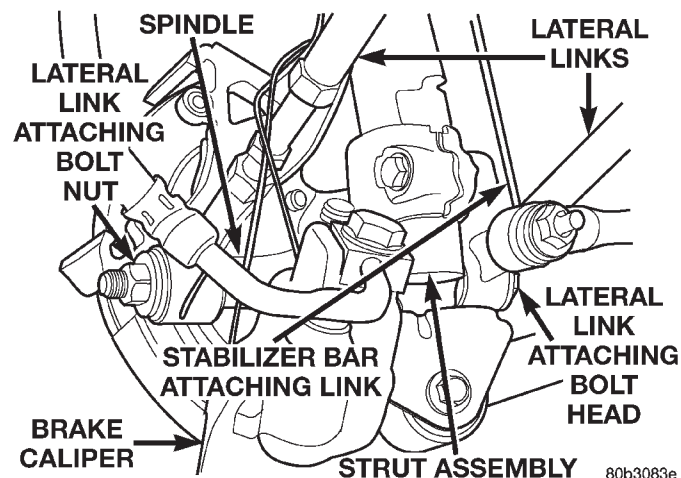
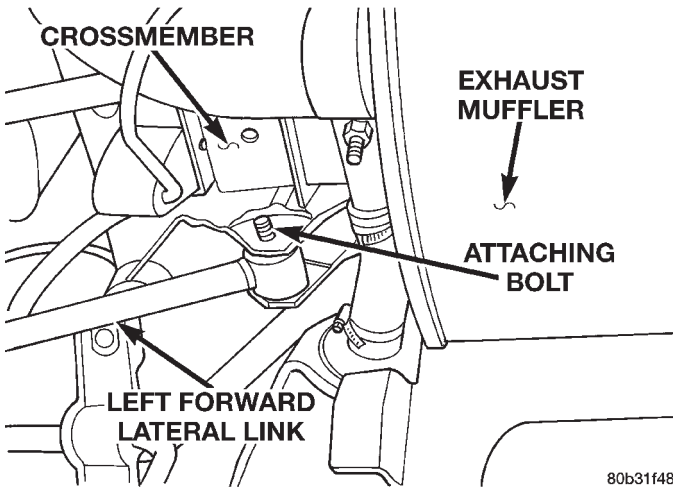

Fig. 25 Lateral Link Attachment To Spindle
**Fig. 26 Lateral Link Attachment To Crossmember**
(1) Raise vehicle on jackstands or centered on a frame contact type hoist. See Hoisting in the Lubrication and Maintenance section of this manual, for the required lifting procedure to be used for this vehicle.
(2) Remove rear wheel and tire assembly from the vehicle.
(3) Remove the nut and bolt attaching the left lateral links to the spindle (Fig. 25).
**CAUTION:** The bolts attaching the forward lateral links to the crossmember must be installed with the bolts pointing rearward (Fig. 26) to prevent damage to the fuel tank and or fuel tubes. Also, the left rear lateral arm attaching bolt to the crossmember is to be installed pointing forward to prevent possible damage to the fuel filler tube.
(1) Attach the lateral link to crossmember. Rear lateral link attachment bolts should be installed from the rear and point forward. Forward lateral link attachment bolts should be installed from the front and point rearward.
(2) Install the attaching nut, but DO NOT tighten at this time.
(3) Install the lateral links on the spindle. Install, but DO NOT fully tighten the attaching bolt and nut at this time (Fig. 25).
(4) Install rear wheel and tire assembly on vehicle.
(5) Tighten the wheel mounting stud nuts in proper sequence until all nuts are torqued to half